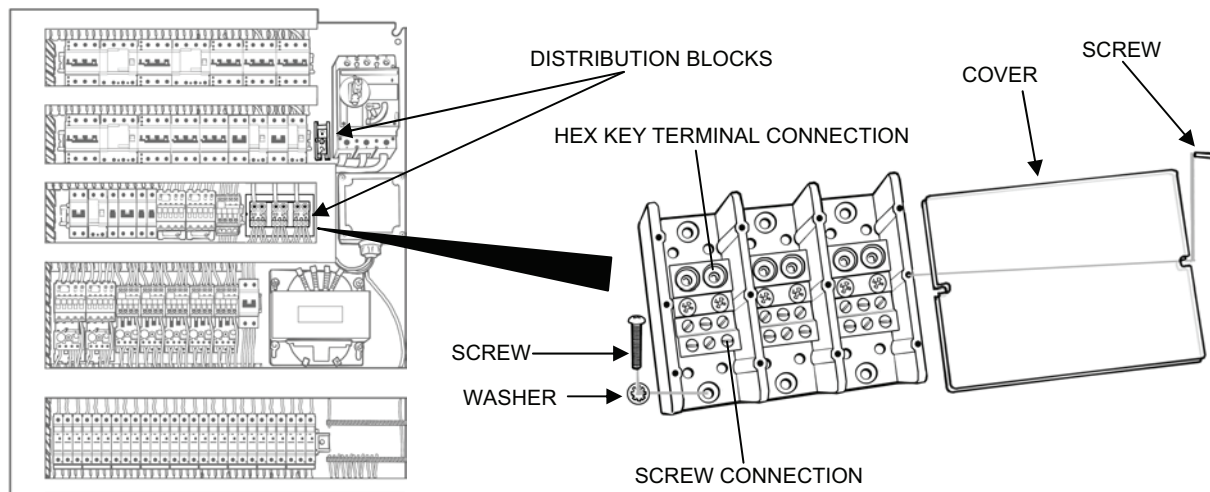

Figure 12. Distribution Block Assembly Replacement.
1. Remove a distribution block as follows (see Figure 12):